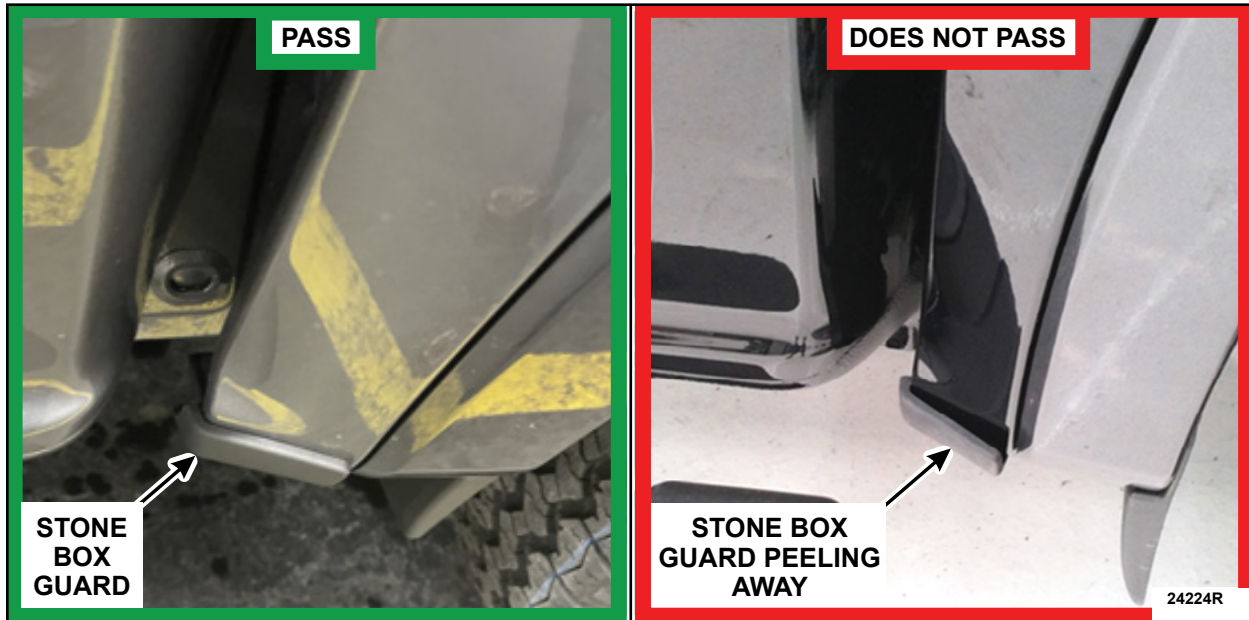

FIGURE 5
10. Verify the stone box guard, located between the front of the pick-up box and corner of rear cab, is present and not peeling away from the body. See Figure 5.